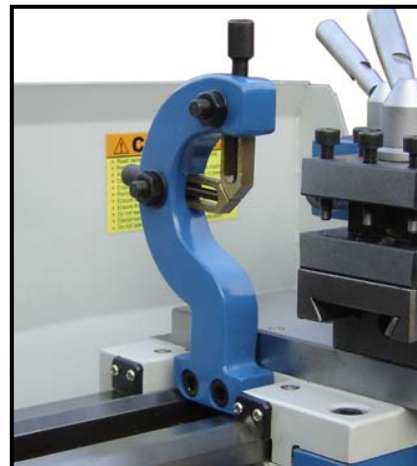

Fig. 31
1. Loosen three hex nuts. (A, Fig.31)
2. Loosen knurled screw (B, Fig.36) and open the sliding fingers. (C, Fig.31) until the steady rest can be moved with its finger around the workpiece. Secure the steady rest in position.
3. Tighten knurled screws so that fingers are snug but not tight against the workpiece. Tighten three nuts (A, Fig.31). Lubricate the sliding points with machine oil.
The follow rest is mounted on the saddle and follow the movement of the turning tool. Only two sliding fingers are required. The place of the third finger is taken by the turning tool. The follow rest is used for turning operations on long, slender workpieces. It prevents flexing of the workpiece under pressure from the turning tool. ( Fig.31 )